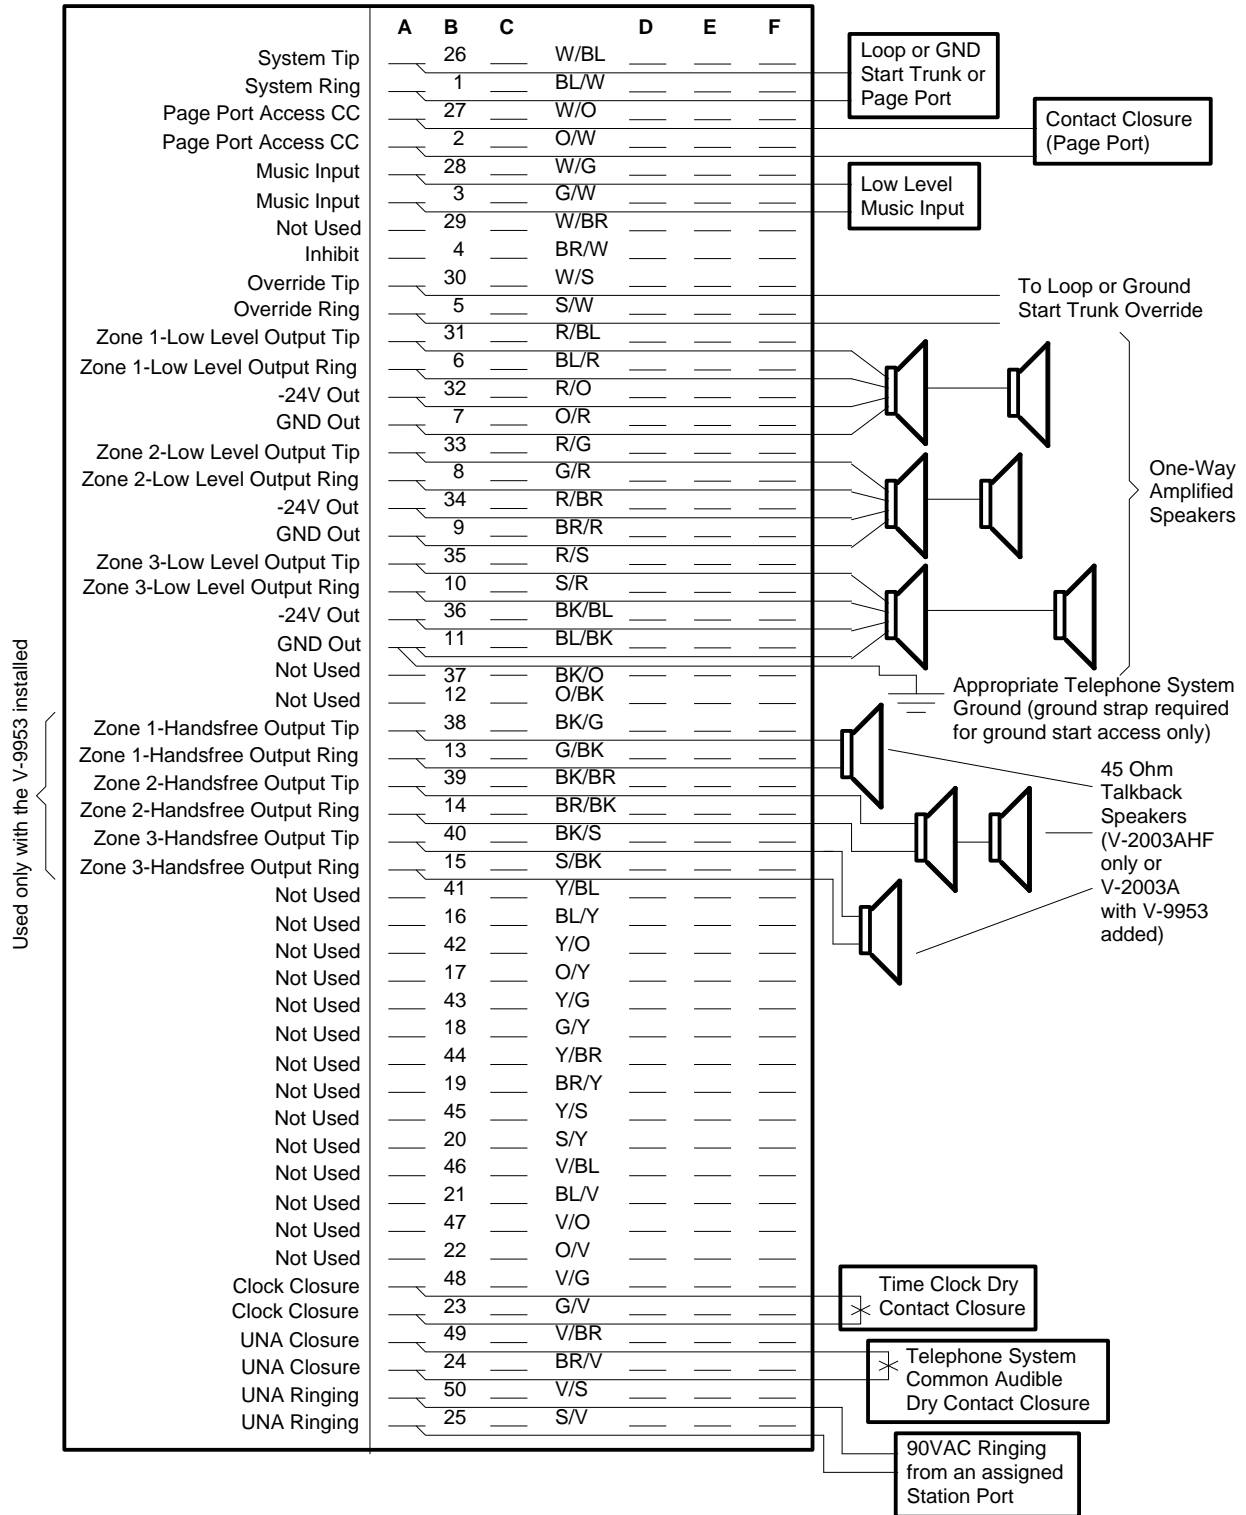

FIGURE 3 - 66 BLOCK CONNECTIONS FOR THE V-9953
- 8. Using twisted pair telephone wire, connect the Talkback Speakers to the appropriate output on the V-2003A connection block (Figure 3). Zone 1 speakers connect to the BK/G pair, Zone 2 speakers connect to the BK/BR pair, and Zone 3 speakers connect to the BK/S pair. No more than two (2) 45 Ohm speakers should be connected to any Talkback zone. Do not use 8 Ohm speakers.